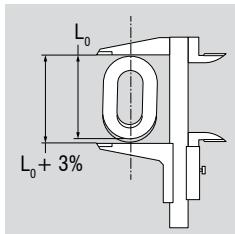

Fig. 10: Impermissible wear and tear or elongation on a chain link
- Impermissible wear and tear or elongation on a chain link e.g. when the rated dimension of the inner length is exceeded by 5 %. This corresponds to an outer elongation of 3 % (Fig. 10)